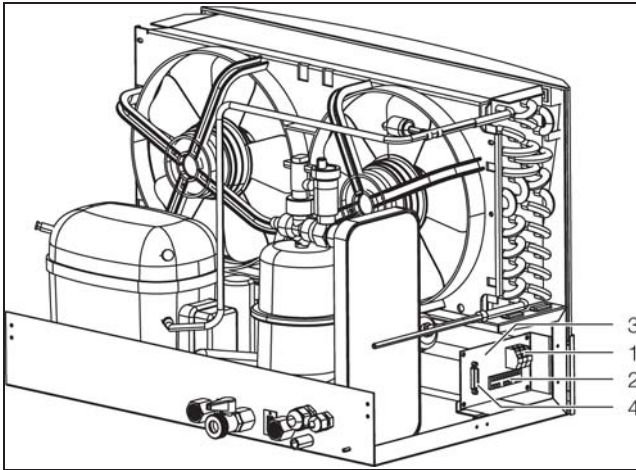
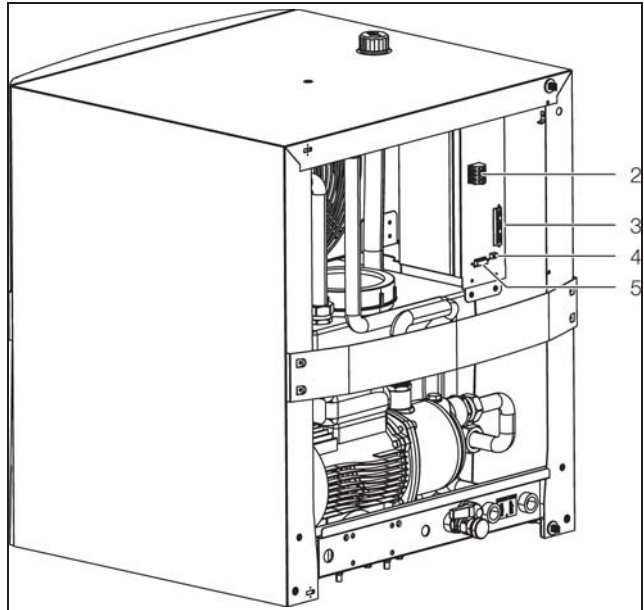
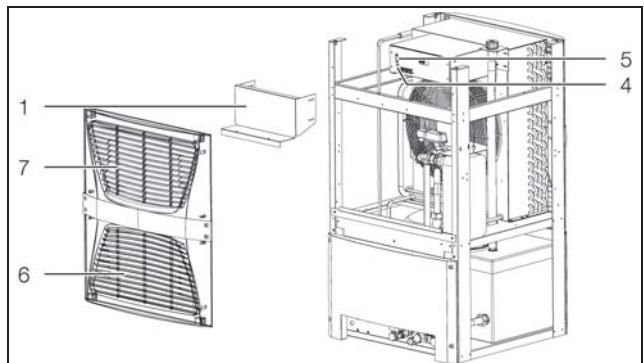

Fig. 41: PLC connection (3318.600, 3318.610 and 3319.600, 3319.610)
Fig. 43: PLC connection (3320.600 and 3334.600)
Fig. 44: PLC connection (3334.660)
- Connect the cable to the 15-pole Sub-D socket (fig. 41, item 4).
- Connect the cable to the 15-pole Sub-D socket (fig. 43, item 5).
- Remove the louvred grilles (fig. 44, items 6 and 7) on the rear of the chiller.
- Connect the cable to the 15-pole Sub-D socket (fig. 44, item 5).
- Connect the connection cable on the electrical switch box to plug-type contact B5 (fig. 41, item 3, fig. 43, item 4 or fig. 44, item 4).